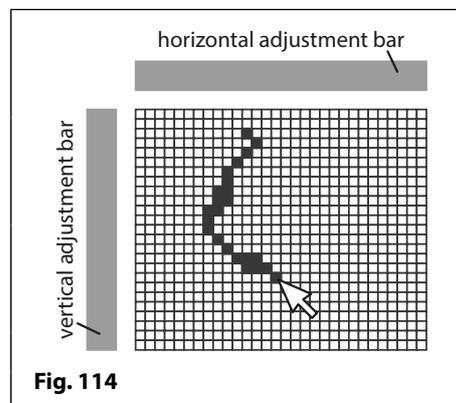

Fig. 114
- To draw an individual pixel move the cursor to the relevant pixel in the editing area and click the left mouse button once (see **Fig.114**).